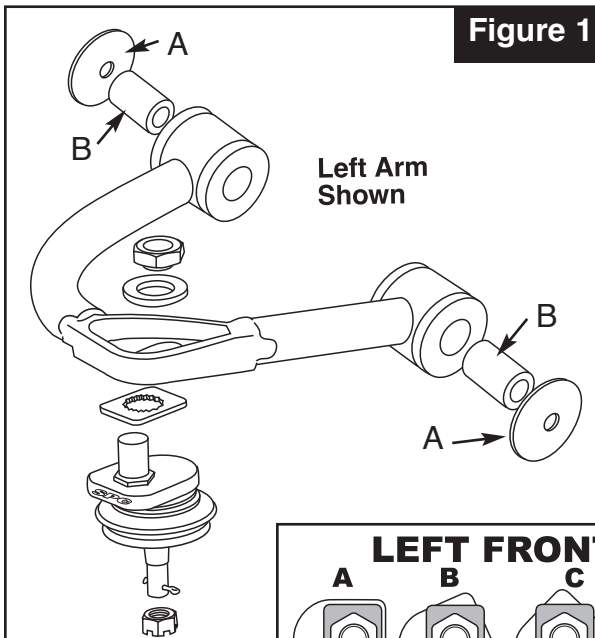

Figure 1
6. Using **SUPPLIED GREASE ONLY**, liberally coat the inside of all four SpecRide control arm bushings, making sure all small voids are filled with grease. Press a pivot sleeve (#B-Figure 1) into each bushing until it is flush with the outside of the bushing. This will push some grease out, which is normal. Use this grease to lightly coat the outboard ends of the SpecRide bushings where they will contact the included large washers. (#A-Figure 1).